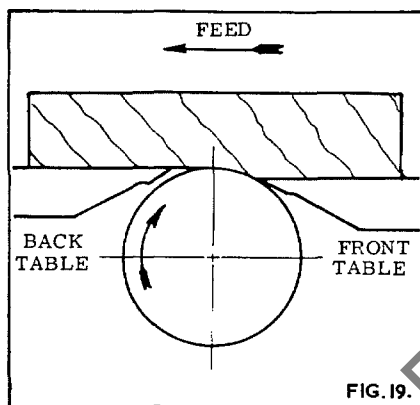

FIG. 19.
1. To obtain the best surface finish always check the direction of the grain, which should run with the cutter as in fig. 19.